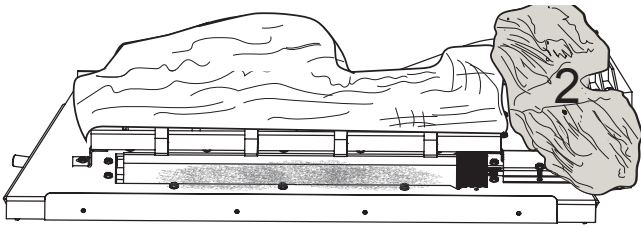

Figure 6.12 - Log #2 Placement
3. Hold log #2 with the flat surface to the right. Place log #2 to the right side of the burner assembly by positioning the pin locator hole on the bottom of the log over the pin on the right-hand side. See Figure 6.12.